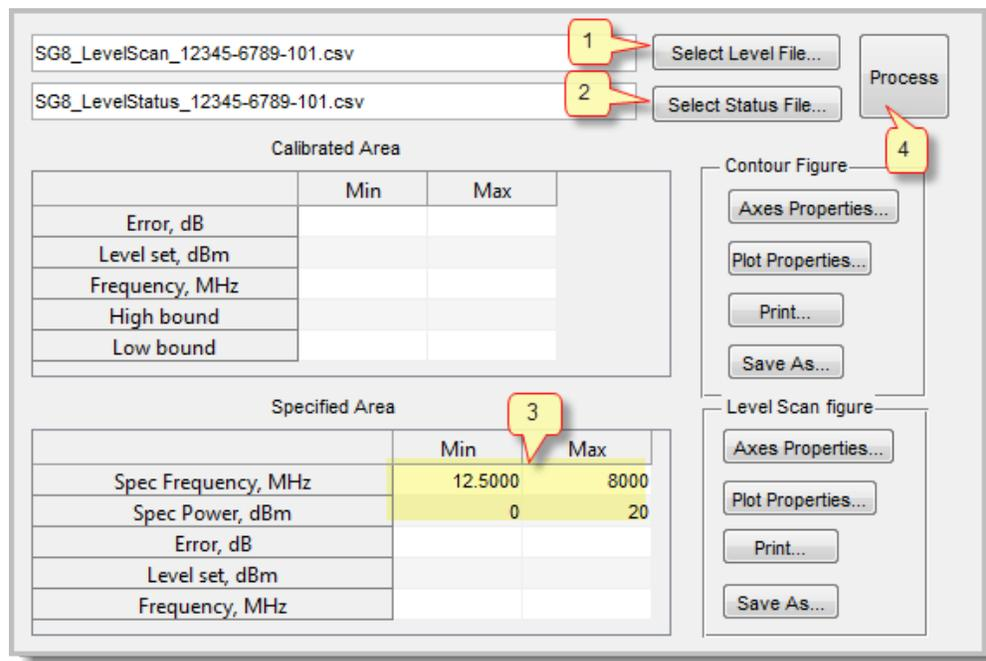
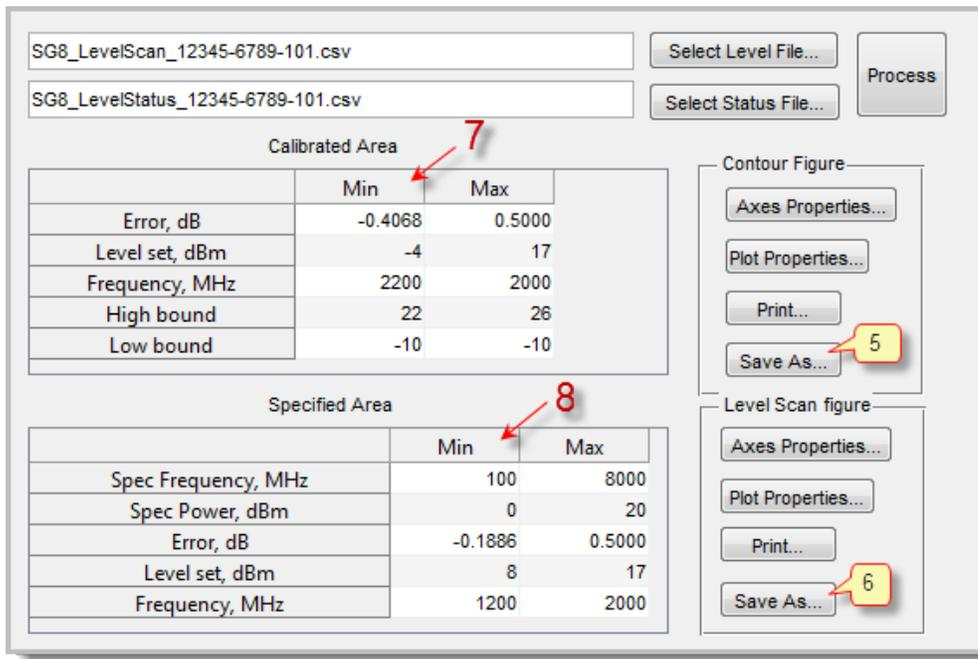

Figure 16: SG8_TP_LevelScan application – selecting files and specifying area
Figure 17: SG8_TP_LevelScan application – reading min/max values and saving plot figures
1. Select level scan file (`SG8_level_<Serial_No>.csv`), item 1, figure 16.
2. Select status scan file (`SG8_status_<Serial_No>.csv`), item 2, figure 16.
3. Change the default values of specified area if required, item 3. The default values are shown in the figure.
4. Press "Process" button (item 4).
5. Save absolute accuracy contour plot (item 5, figure 17) and level scan plot (item 6).
6. Table, see item 7, figure 17, contains min and max error values in calibrated area. Level set and frequency fields correspond to the coordinates of these extreme points on power-frequency plane. High bound (low bound) min and max fields correspond to the curve representing high bound (low bound) of calibrated area. It is also displayed in the level scan plot with thick red dotted line.
7. Table, item 8, contains min/max errors and its coordinates in area specified by Spec Frequency and Spec Power min/max fields. By default it's 0 to +20 dBm, 12.5 to 8000 MHz. If specified area is not within scanned area, it's automatically recalculated to be so.